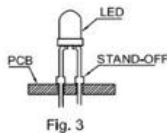
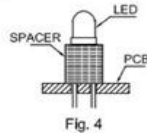

Fig. 3
Fig. 4
- 3, Use stand-offs (Fig.3) or spacers (Fig.4) to securely position the LED above the PCB.